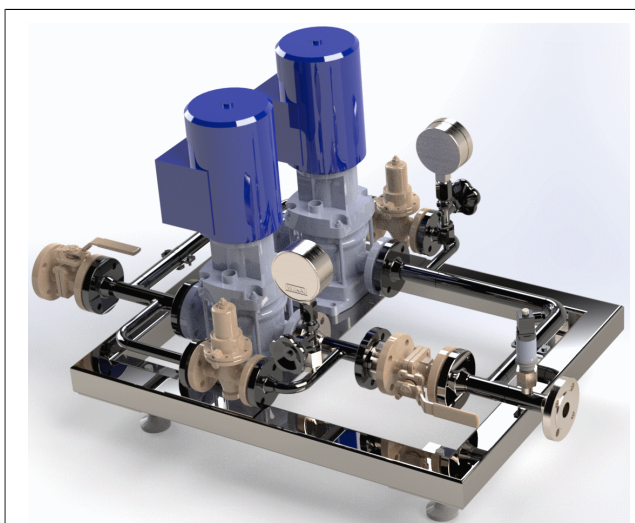

Fig. 2: Type 7111-2 Pump Assembly
- **Type 7111-2** (Fig. 2): pressure pump plus redundant pressure pump, one adjustable Type 44-6 B Excess Pressure Valve for each pump, stable stainless steel skid, stainless steel piping